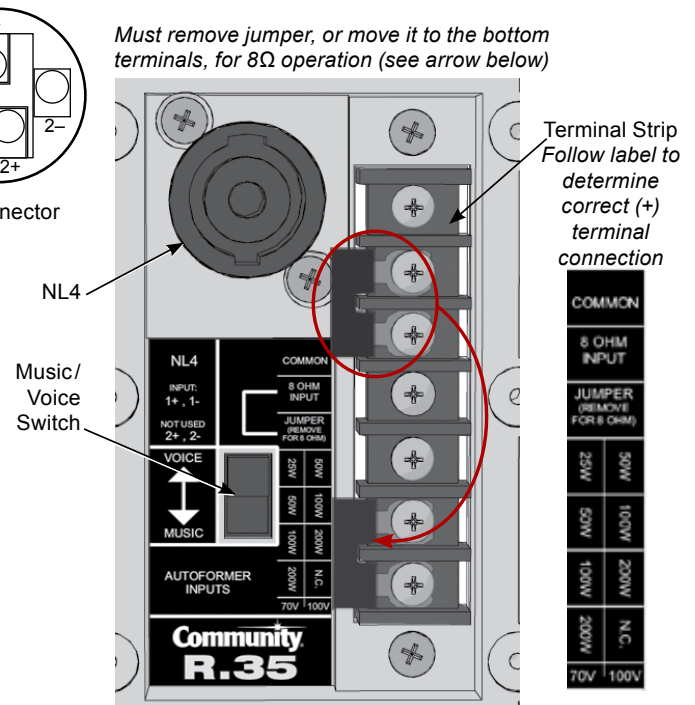

Figure 5b. R.35 input panel
R.35: Insert the cable through the gland nut and weather cover and wire the unit referencing the label for connections for your system voltage. See **Figure 5b**. There is a preinstalled jumper that should be moved to the bottom terminals for 8Ω operation. Failure to do so can result in damage to the loudspeaker and/or amplifier. Set the Music/Voice switch to the desired position based upon your type of application. The NL4 connection can only be used for low impedance 8Ω operation.